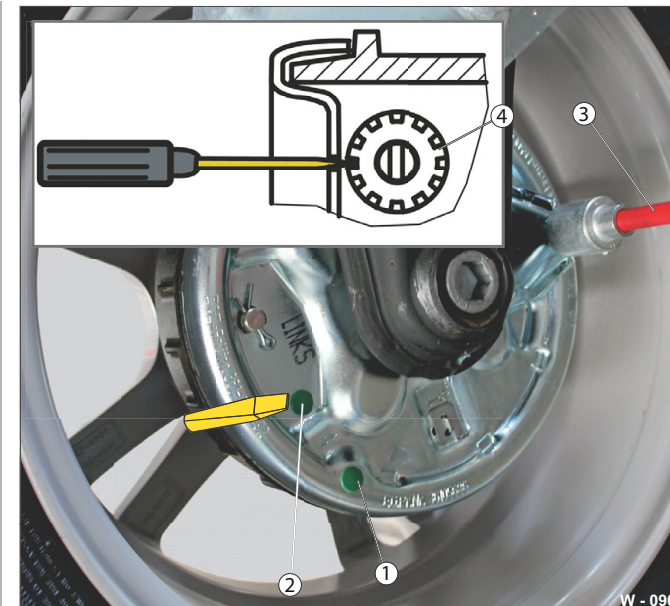

Fig. 63 Example: Drum brake (ALKO)
- Remove the stopper from the adjustment opening (Fig. 63 /2).
- Adjust the adjustment nut (Fig. 63 /4) with a slot-head screwdriver - pay attention to the arrow markers: